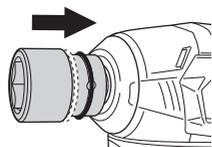

Fig. 8
- (3) While making sure that the pin doesn't fall, attach the O-ring to the groove on the socket. (Fig. 8, 9)